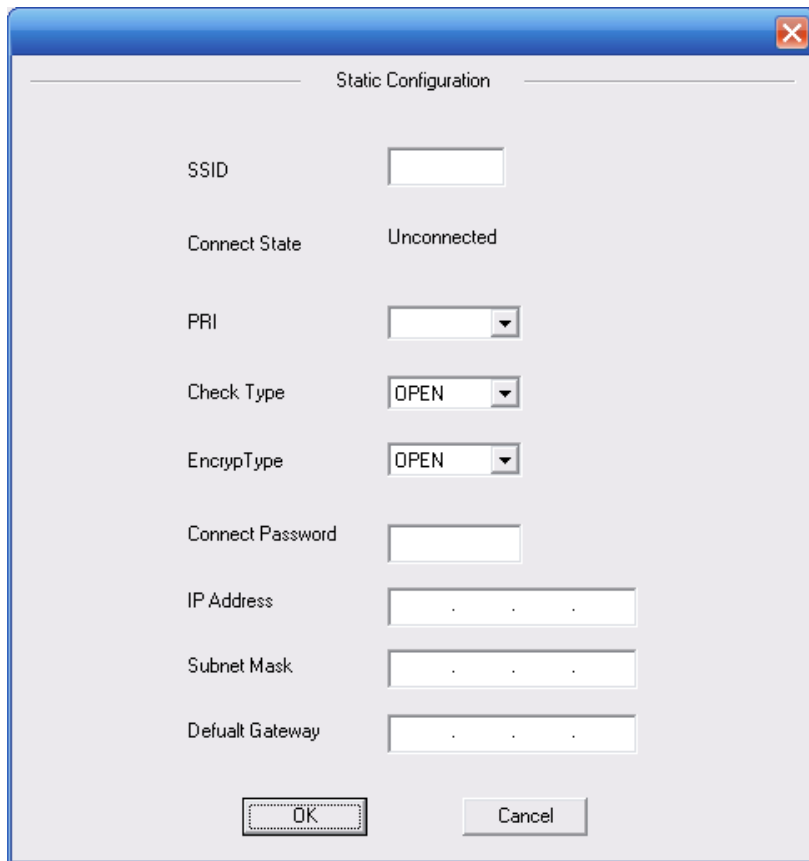

Figure 7-61
Step 4. In the pop-up interface, input the corresponding wireless network ID, priority, parity type, encryption mode, connection password, IP address, subnet mask and default gateway. Then please click the save button. See Figure 7-61
Step 5. Click the save button in Figure 7-61.